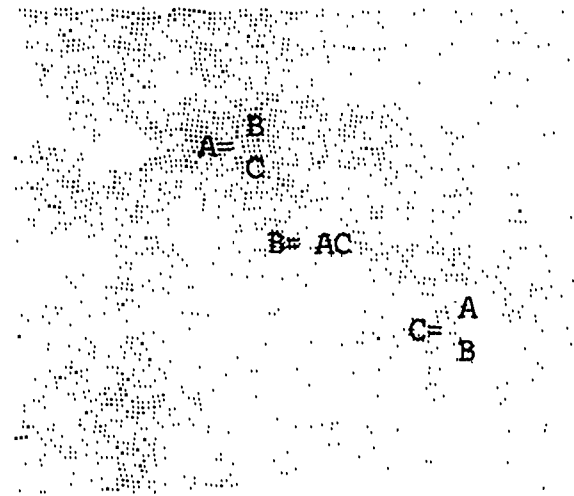

Figure 2-8. Graphic with three shades.
**Use of Black and White.** At first thought, it would seem that the use of black and white would be very appropriate for many graphics. For example, the presentation of a mathematical formula in black and white seems to be a good idea since an extreme contrast range is desirable in most illustrative work. This is not so when presented on TV. Too much contrast can cause halo and horizontal streaking when the two extremes are used adjacent to each other. Rather than black letters on a white background, a graphic having three tones such as shown in figure 2-8 would be preferable.